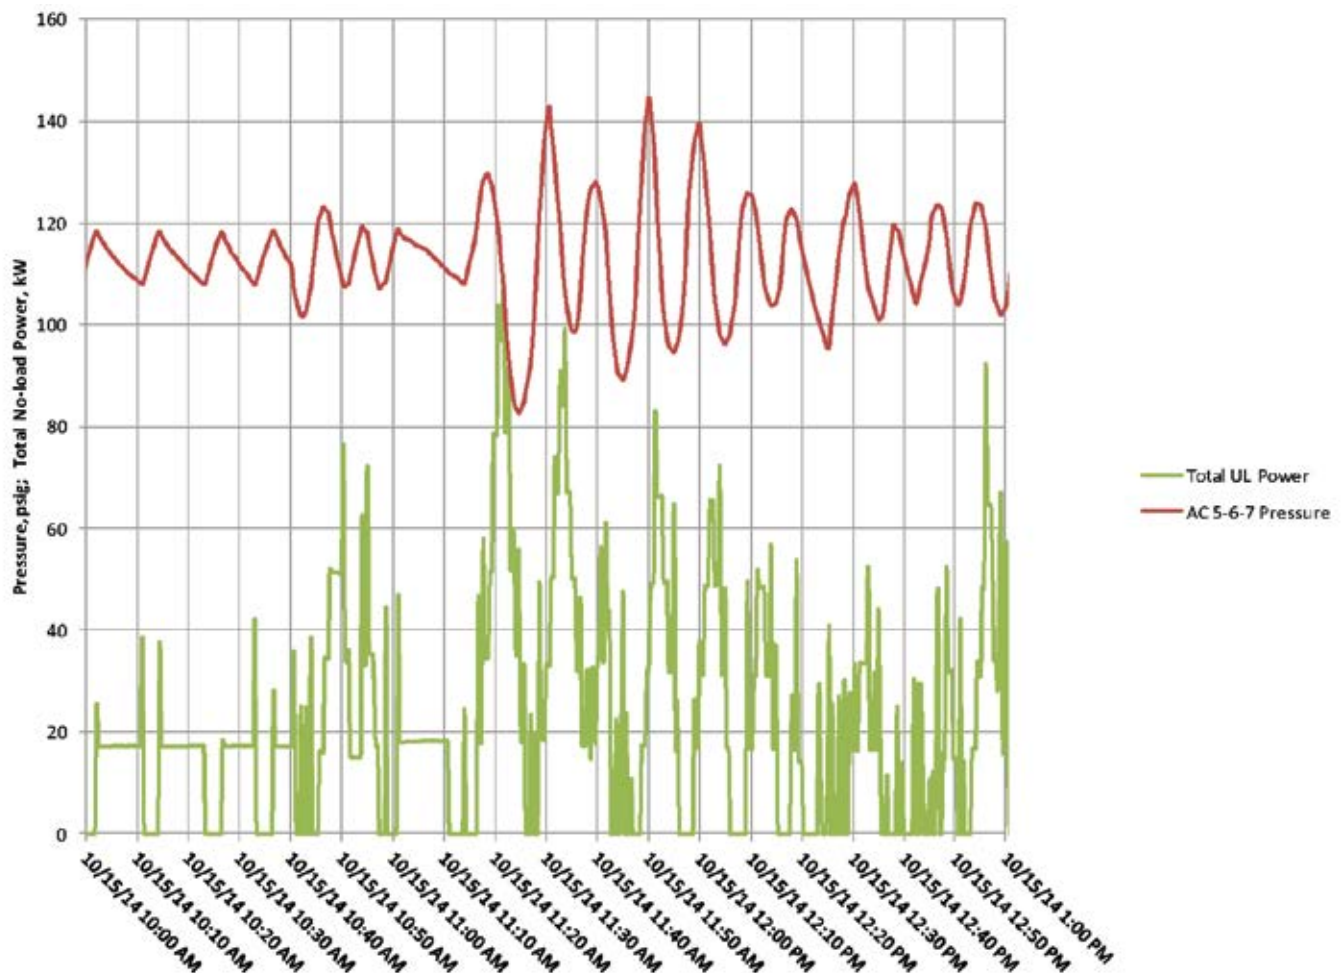

Figure 3. Data Trend Showing Pressure Over-undershoot
- Number of no-load air compressors running at any one time. This tells you situations where the system is not tuned well. Usually caused by over-shoot and undershoot of pressure. A zoom-in on data can identify timer adjustments that can remedy the problem. See Figure 3 for an example of a target sequencer system that would start too many compressors, then have to stop unload and stop them, creating a large pressure swing. The no-load power peaks as the pressure drops, then goes to zero as all compressors are loaded and pressure shoots back up. The overall no-load power is an indicator of system performance, but this is a diagnostic trend to determine why it was too high (before tuned).